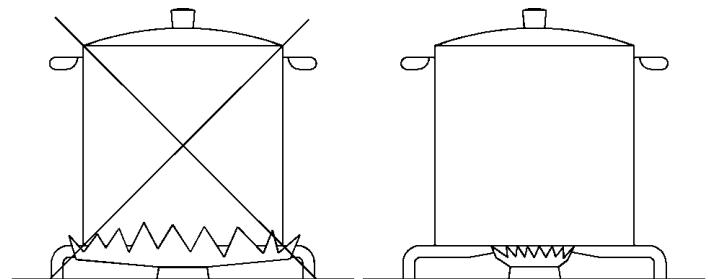

FIG. 1
- use adequate pans for each burner (consult the following table and fig. 1).